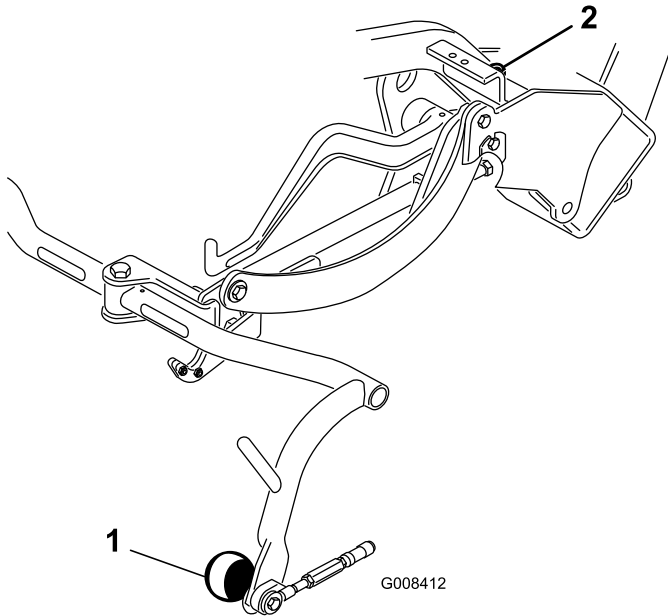

Figure 7
4. If you must adjust the clearance, loosen the jam nut on the carrier frame stop screw (Figure 7) and rotate the screw up or down to raise or